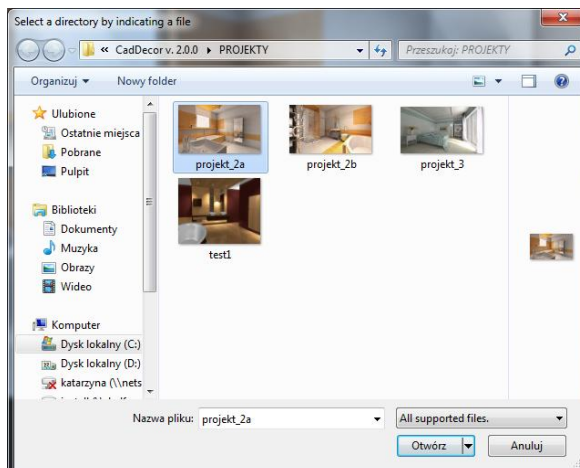

Fig. 474 – opening a new directory in the Gallery
- to add a new directory with pictures to the list in the **Gallery**, click the button **Add a directory to the gallery** and then indicate the location of the directory with images on the disk (Fig. 474);
- to add a directory, click on a name of one of the files in it and then click the **Open** button (Fig. 474);